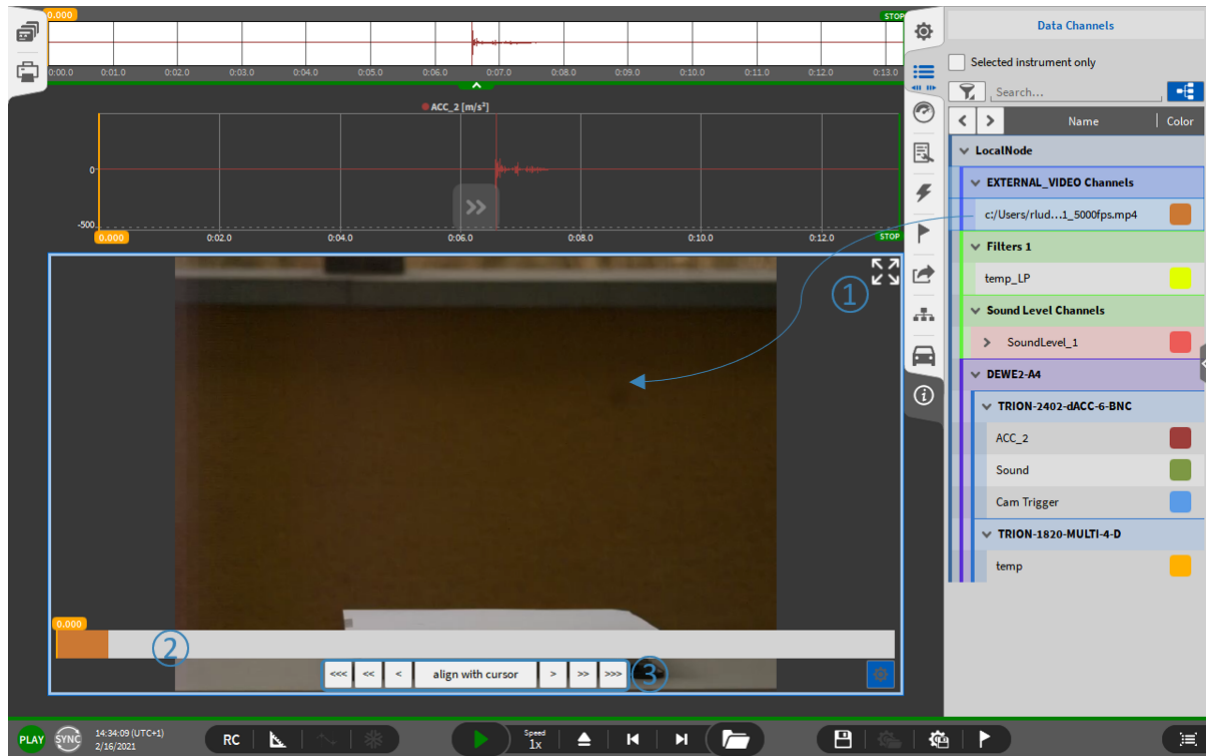

Fig. 7.156: Manual delay compensation between video and sensor data
1. Go to the measurement screen and drop the external video channel to the measurement screen (see ① in Fig. 7.156). This will create a video instrument including the video.
The timebar shows the actual position of the video within the OXYGEN data file (see ② in Fig. 7.156)
2. The buttons (see ③ in Fig. 7.156) can be used to change the position of the video within the data file